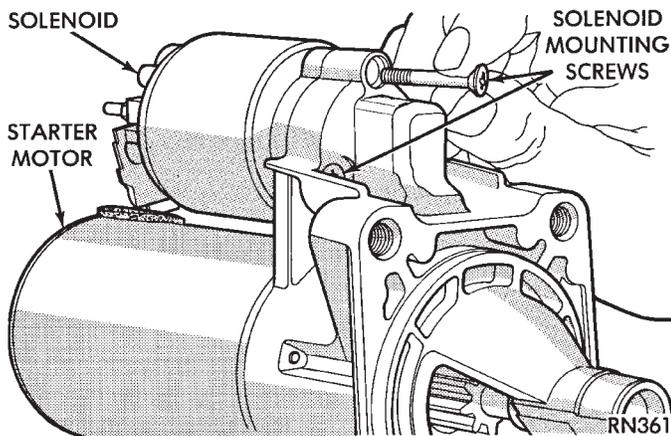

Fig. 17 Solenoid Mounting Screws
(4) Remove three solenoid mounting screws (Fig. 17).
(5) Remove the solenoid from the starter assembly.
(6) For installation, reverse above procedures.